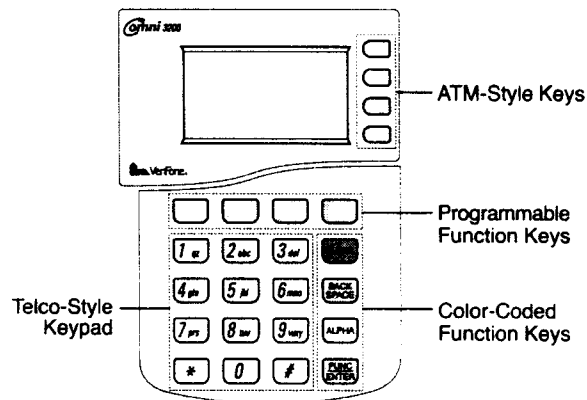

Figure 4 OMNI 3200 Keypad and Function Keys
- 24 keys, arranged in groups (see Figure 4):